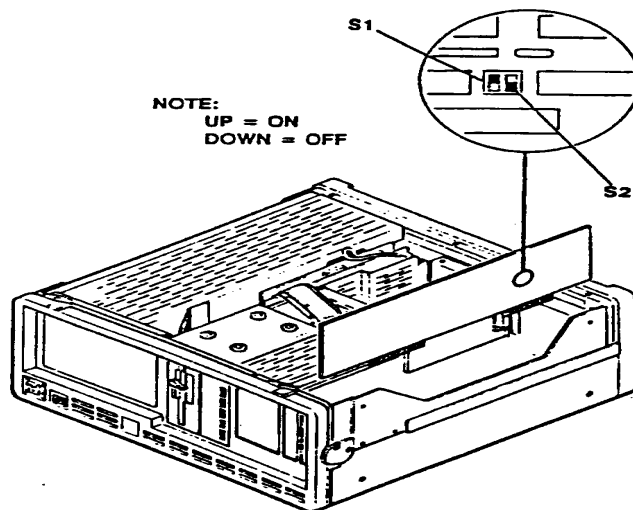

Figure 1. Adjustment locations.
**EEPROM** is write enabled by changing the settings of switch 1 (**S1**) and switch 2 (**S2**) (fig. 1). This is performed in the following manner: